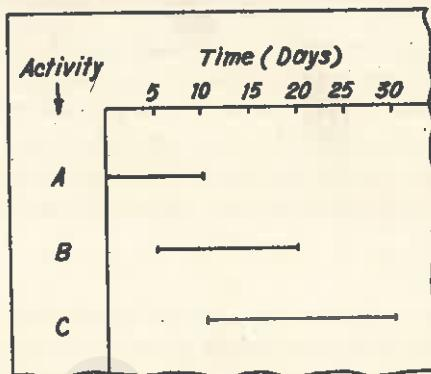

Fig. 7.28. A bar chart.
1. **The Bar Chart** (Fig. 7.28) consists of a number of bars. Each bar has its length proportional to the activity duration. A bar chart is generally used to point out and analyze interrelated data which otherwise is difficult to read.